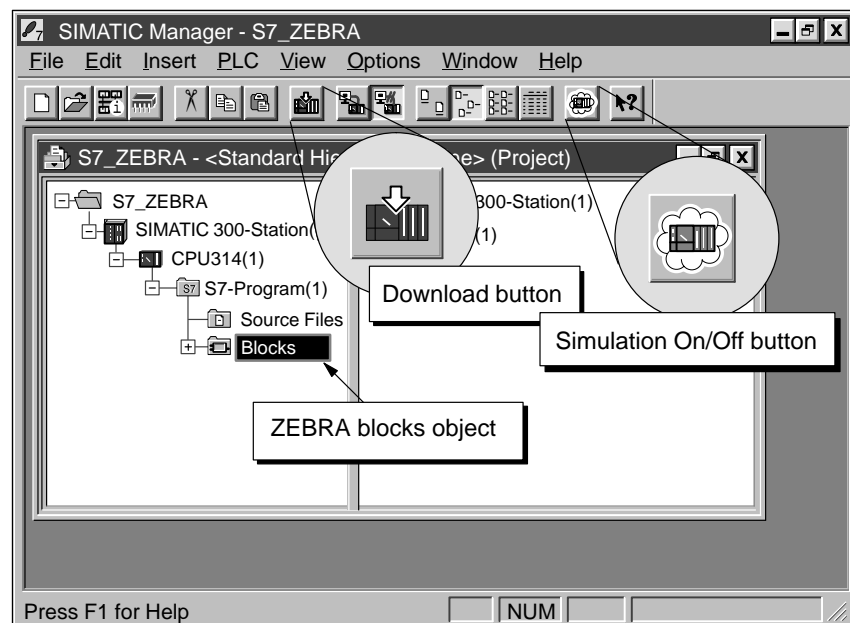

Figure 2-1 Downloading the S7_ZEBRA Program to the Simulated PLC
2. Turn on the routing to the simulator by clicking on the Simulation On/Off button located on the SIMATIC Manager toolbar, as shown in Figure 2-1, or by selecting the menu command **Options ▶ Simulate Modules**.
4. Navigate through the object hierarchy until you get to the blocks object. Figure 2-1 shows the S7_ZEBRA project structure.